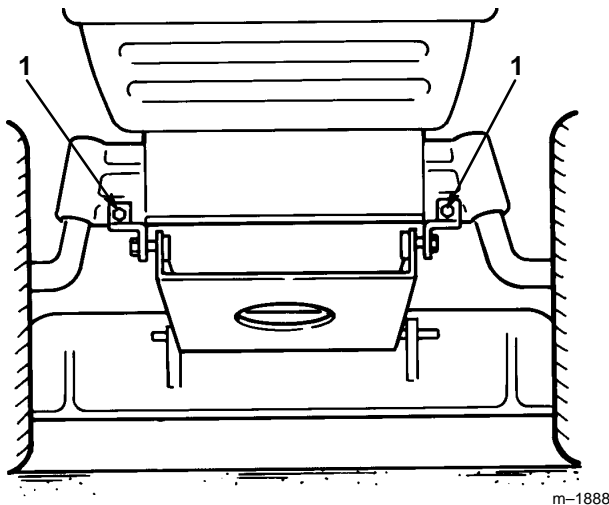

Figure 38
7. Remove the bolts and lock nuts and pull the two mower pivot mount brackets down from the front axle (Fig. 38).